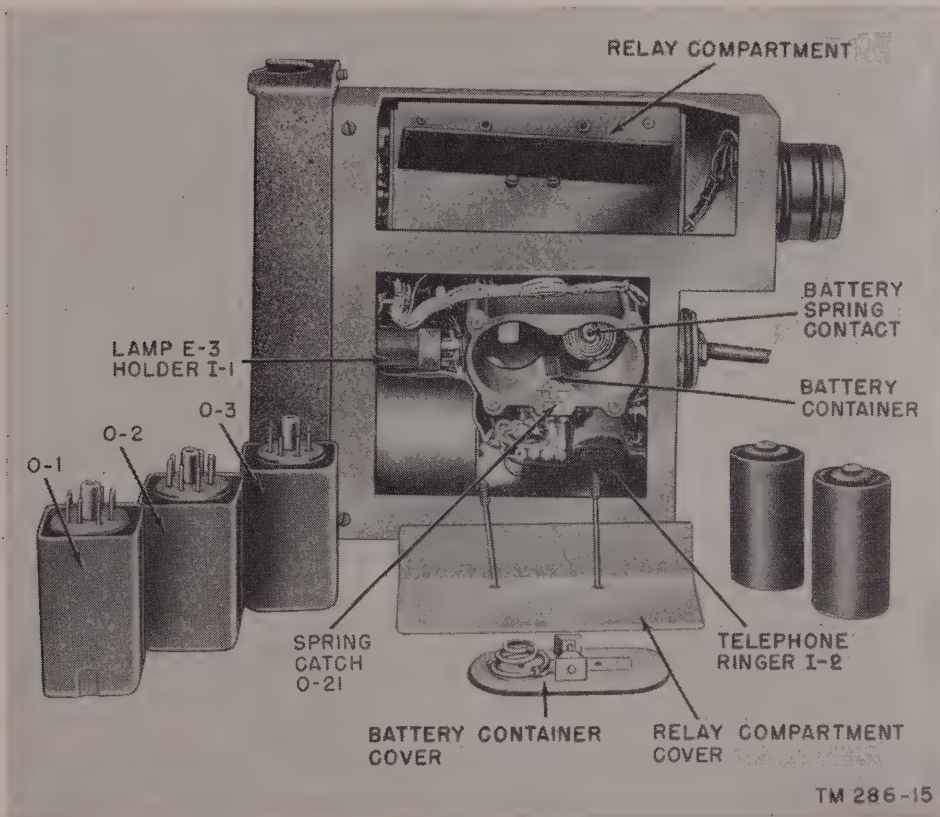

Figure 28. Local Control C-434/GRC, bottom view.
- (1) Loosen the thumbscrew fasteners on the panel, and remove the panel-chassis assembly from the case.
- (2) Remove the battery compartment cover by releasing the catch which holds it in place (fig. 28).
- (3) Insert two 11½-volt Batteries BA-30 side by side in the battery compartment, making certain that the positive